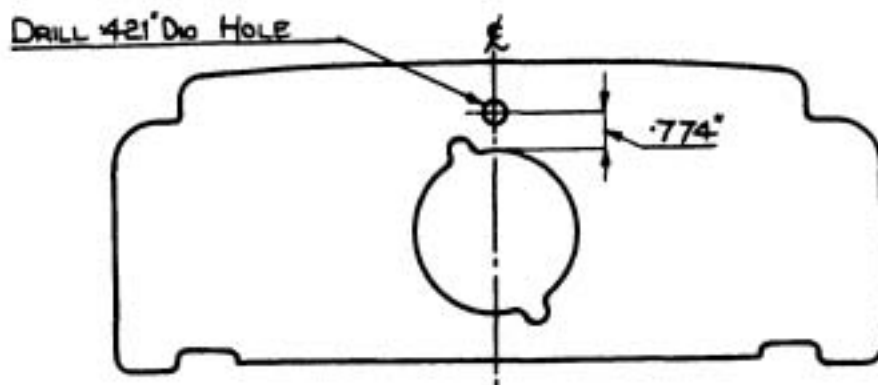

FIG. 1.
1. Disconnect the existing wire 'P' from the distribution board and re-connect it to one of the vacant terminals in the 12-way junction box (F).
4. Fit the switch supplied into the vacant hole in the top of the instrument panel above the switch box. If this hole does not already exist, drill as shown in Fig.1.